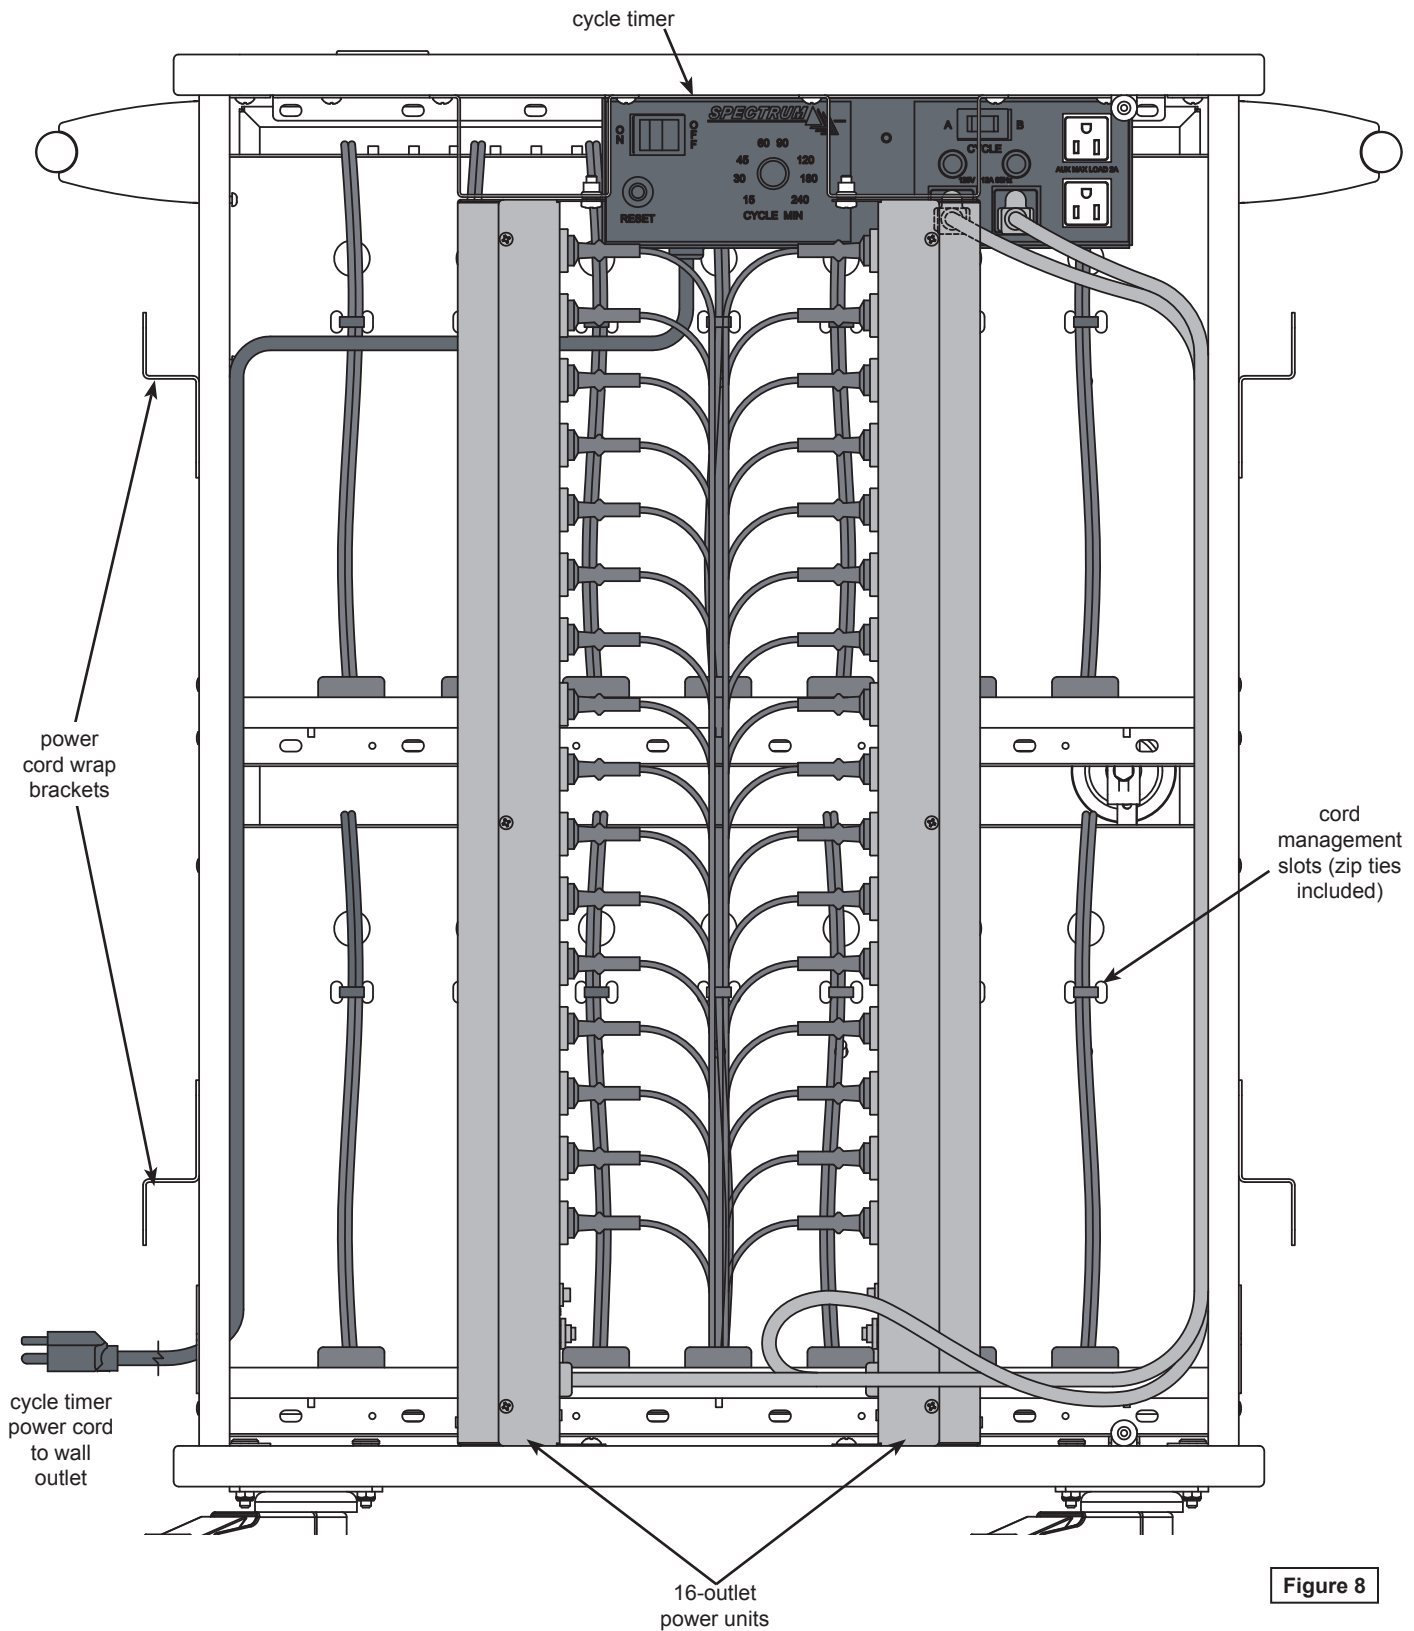

Figure 8
2. Route the power unit cords as shown and plug one in to the A side outlet, and one into the B side outlet on the timer. **Figure 8.**